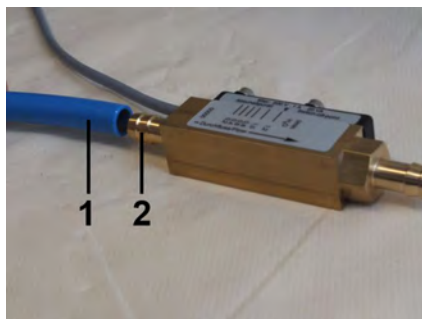

Fig. 9: connect the hose
1. ➤ Position the hose (inlet) (Fig. 9/1) to the hose connector (inlet) (Fig. 9/2).